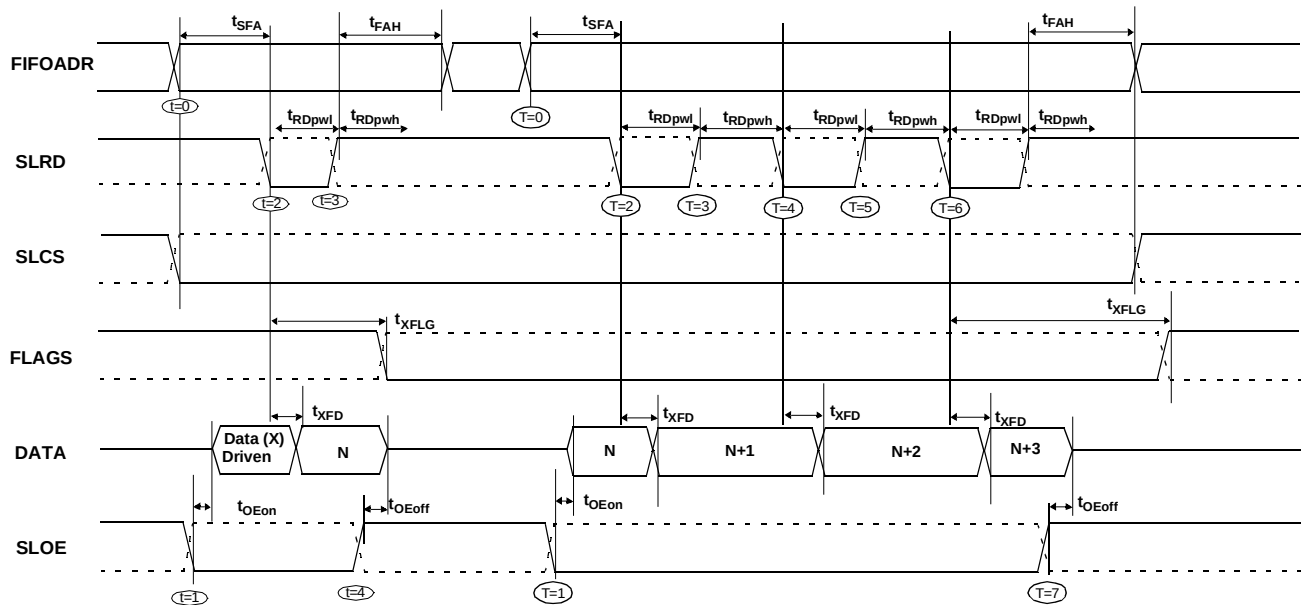

Figure 10-21. Slave FIFO Asynchronous Read Sequence and Timing Diagram
Figure 10-21 diagrams the timing relationship of the SLAVE FIFO signals during an asynchronous FIFO read. It shows a single read followed by a burst read.
- The data that will be driven, after asserting SLRD, is the updated data from the FIFO. This data is valid after a propagation delay of t_{XFD} from the activating edge of SLRD. In Figure 10-21, data N is the first valid data read from the FIFO. For data to appear on the data bus during the read cycle (i.e. SLRD is asserted), SLOE MUST be in an asserted state. SLRD and SLOE can also be tied together.